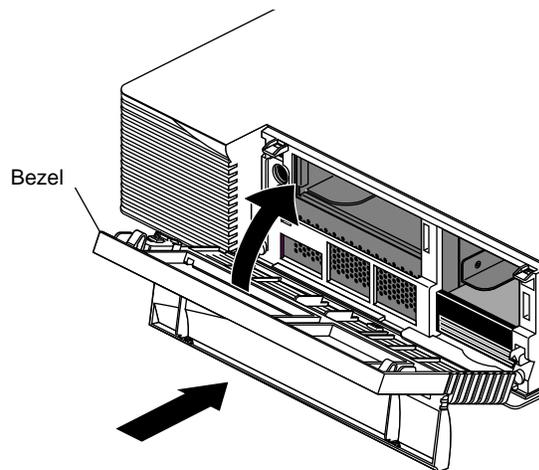

Figure 1-15 Replacing the Bezel
- Place the tabs on the bottom of the bezel in the grooves in the front of the chassis, as shown in Figure 1-15.